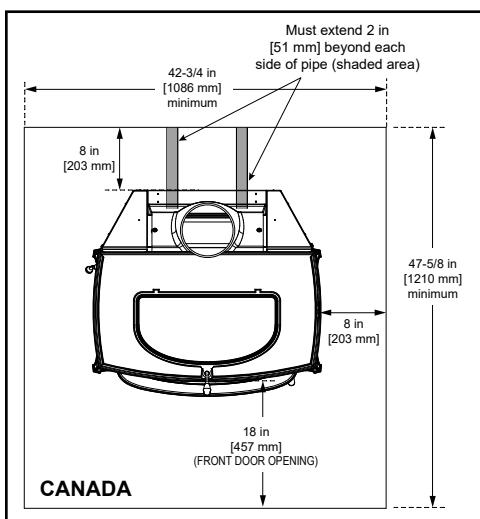

Figure 3.7
**In Canada,** similar floor protection must be provided 18" (457 mm) in front and 8" (203 mm) from the sides and rear of the appliance, Figure 3.7
**\*EXCEPTION:** Non-combustible floor protections must extend beneath the flue pipe when installed with horizontal venting and extend 2" (51 mm) beyond each side, Figure 3.7.